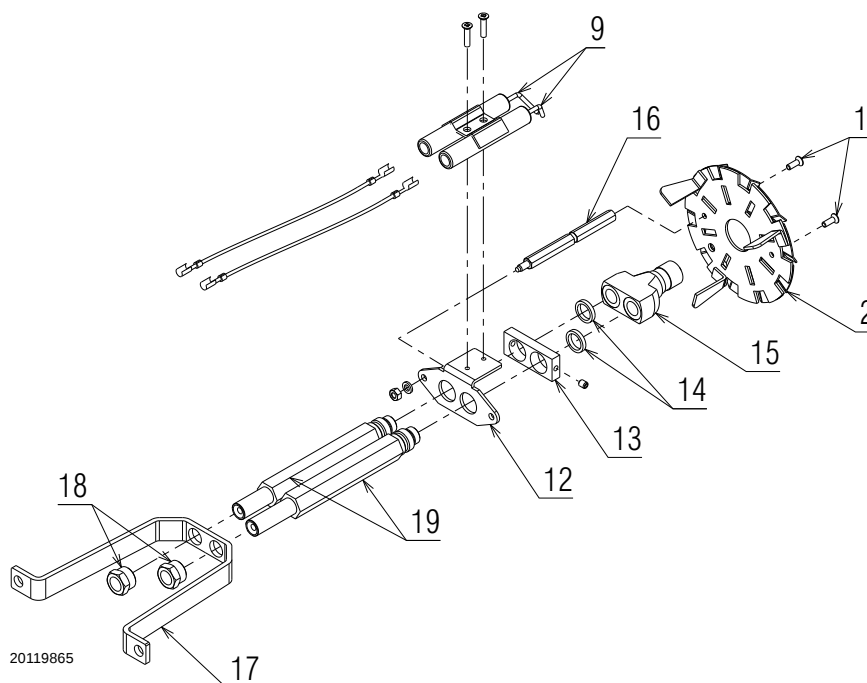

Fig. 6
- Insert the two extensions 19)(Fig. 6) supplied with the kit into the support 17) and fix them with the two couplings 18);